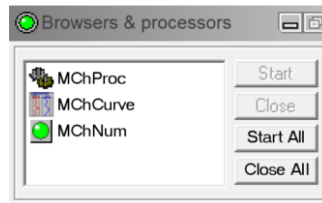

Figure 4-18 Browsers & processors panel
9. Close out of the **Calibration Settings** window. On the **Browsers & processors** panel, click **Close All** and then click **Start All**. This should close all windows on the screen and then open them again, to reinitialize the other Browsers/Processors (**Figure 4-18**).